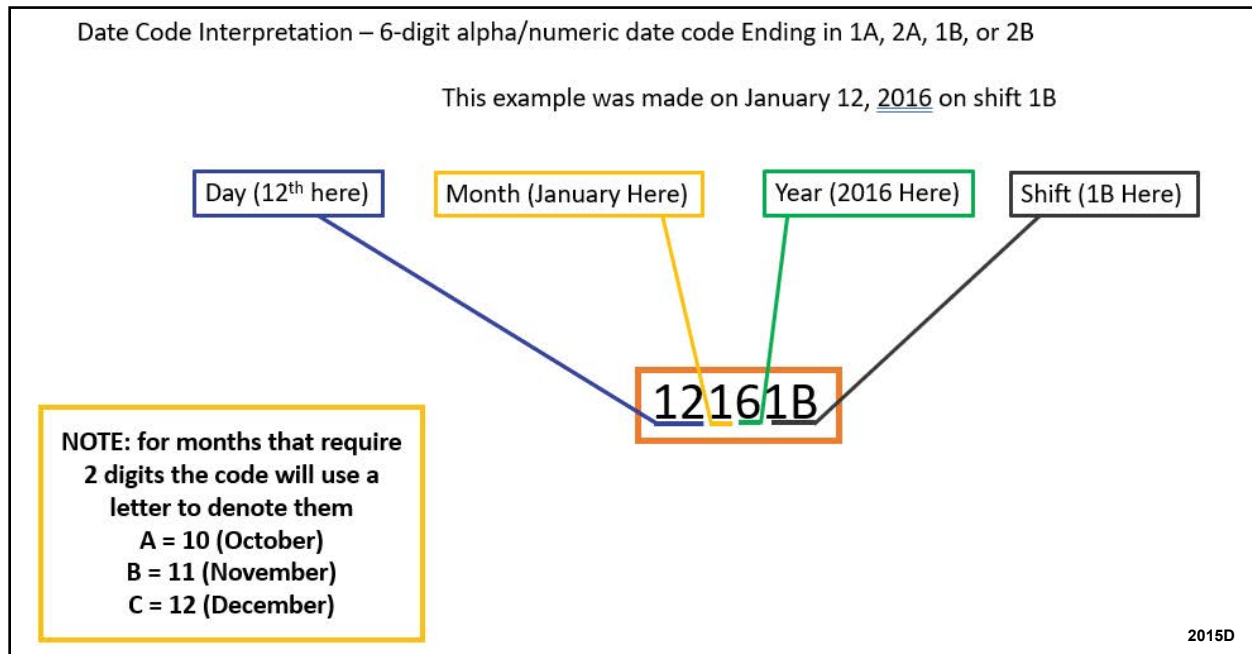

FIGURE 5
8. Using Figure 5 below, decode the 6-digitalpha/numeric date code ending in 1A, 2A, 1B or 2B. Record the decoded date and proceed to Step 10.